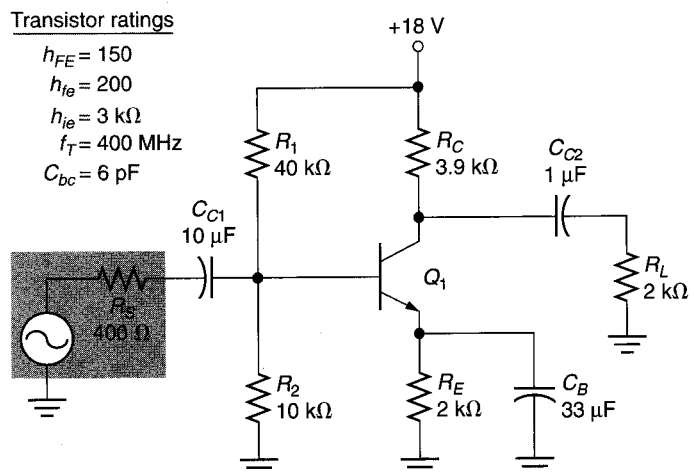

FIGURE 14.39
46. Calculate the change in  $f_0$  that occurs in the circuit in Figure 14.39 if the load resistance opens.